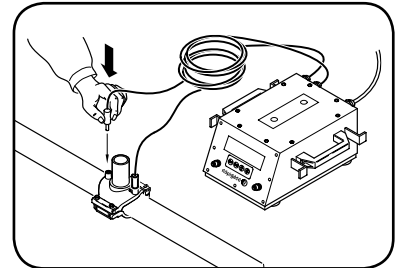

FIG. 3
- 5 Connect the two cables of the electrofusion machine to the connectors of the branch saddle (fig.3). Scan the bar code (see fig.6) with the bar code scanner or enter the welding parameters manually. **ALWAYS CHECK THE WELDING PARAMETERS.**